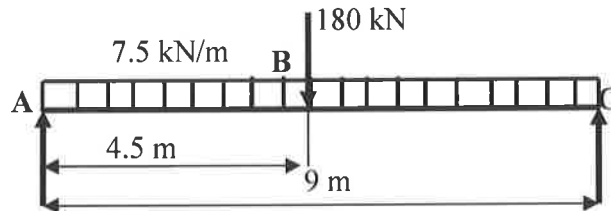

Figure Q4
4. The beam ABC is simply-supported at A and C and it carries a uniformly distributed load of 7.5 kN/m over its entire length and a concentrated load of 180 kN at the beam midspan as shown in Figure Q4. The beam cross-section is hollow rectangular of width 100 mm and depth 300 mm with a uniform wall thickness of 10 mm. Taking $E = 208 \text{ GN/m}^2$ for the beam material, calculate the maximum vertical deflection of the beam. (206 mm)